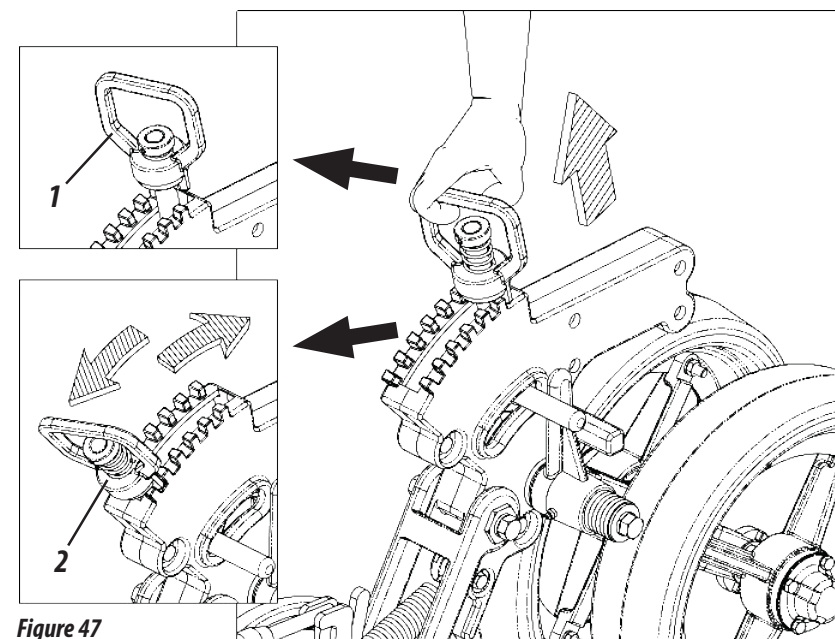

Figure 47
OSCILLATING WHEEL DEPTH ADJUSTMENT (FIGURE 47)
- 1- Pull the handle (1) up, and move the adjuster (2) until the desired point to adjust the depth wheel (3), after lower the handle (1) latching the adjuster (2), **as shown in figure 47.**